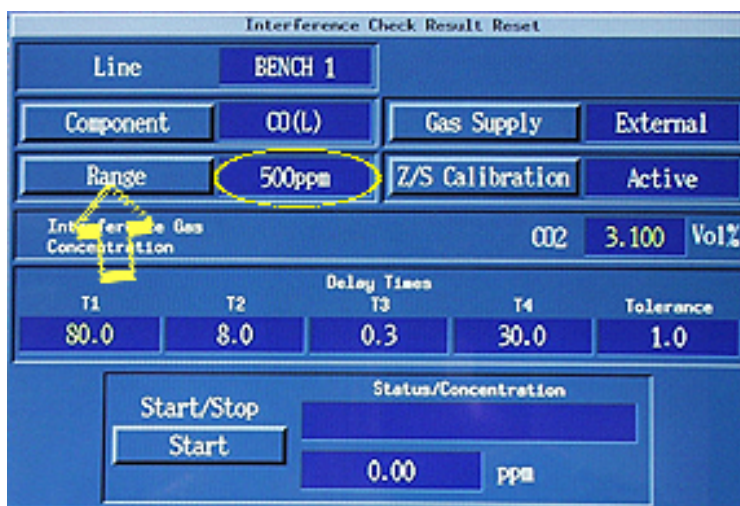

Figure 11
- 113 Verify that the field to the right of the “Range” button contains the appropriate range. If not, click on the “Range” button (see the arrow in Figure 11) and from menu items that appear below the button, click on the appropriate range. See the circle in Figure 11.